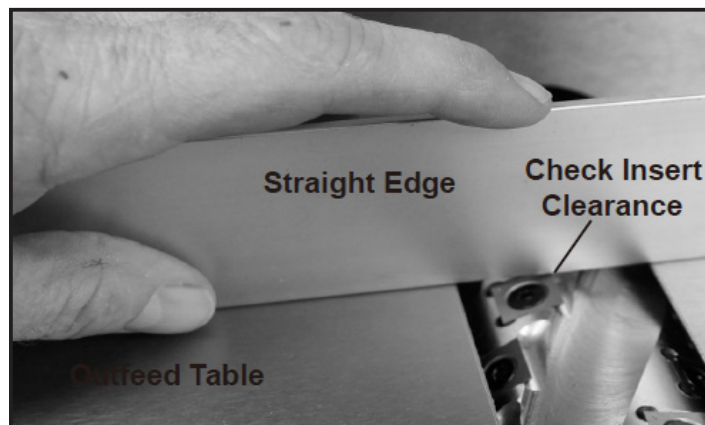

FIG.7.2.2
- With a long metal straight edge, place it length-wise along the outfeed table so that it extends onto the insert cutter at its highest rotation point. Check the measurement on the insert cutter to the far right and then far left on the cutterhead. FIG. 7.2.2.